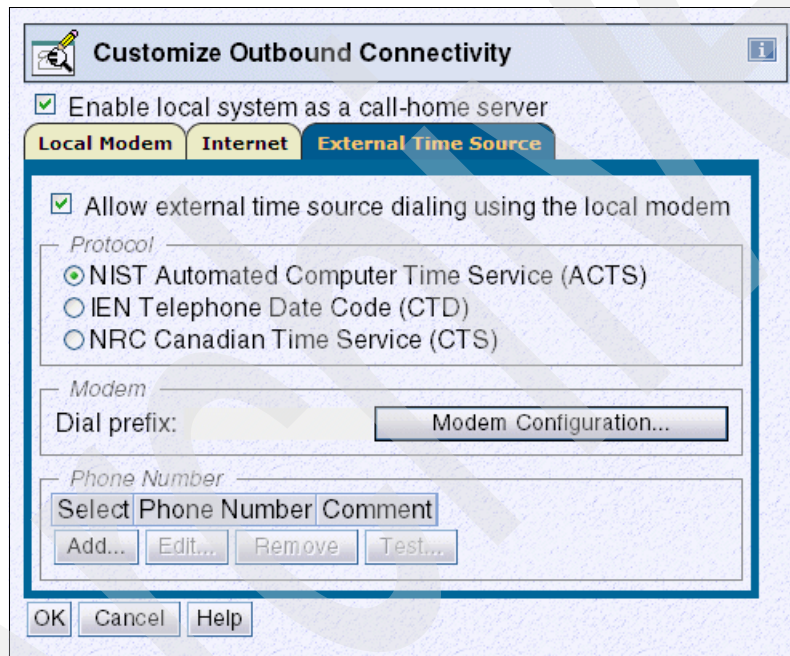

Figure 7-1 Customize Outbound Connectivity - External Time Source
2. Click the Customize Outbound Connectivity option available in the Work Panel. The Customize Outbound Connectivity dialog is displayed (Figure 7-1). Make sure the “Enable local system as a call-home server” check box is selected to enable configuration of the external time source.